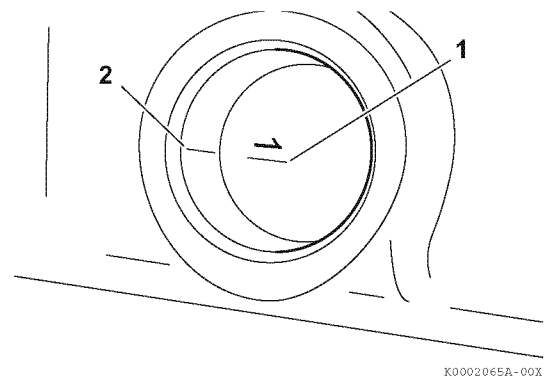
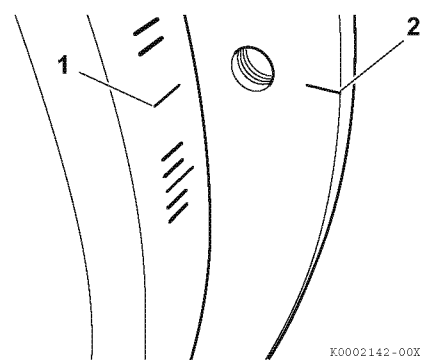
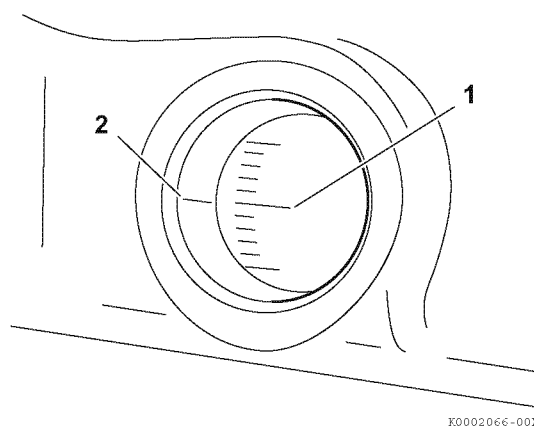

Figure 7-20
Figure 7-21
Figure 7-22
10. Highlight the timing reference mark on the flywheel housing (**Figure 7-20, (2)**) or engine back plate (**Figure 7-21, (2)**). Highlight the TDC mark (**Figure 7-20, (1)**), (**Figure 7-21, (1)**) on the flywheel.
(**Figure 7-21, (1)**), (**Figure 7-22, (1)**) on the flywheel timing grid as the injection timing measured before the fuel injection pump removal.
19. Check the position of the flywheel target timing mark (**Figure 7-22, (1)**) on the flywheel grid in relation to the timing reference mark (**Figure 7-22, (2)**) on the flywheel housing or back plate. If the two marks are aligned, the fuel injection timing is correct. If the marks do not align, the fuel injection timing must be adjusted. See *Adjusting Fuel Injection Timing* on page 7-20.